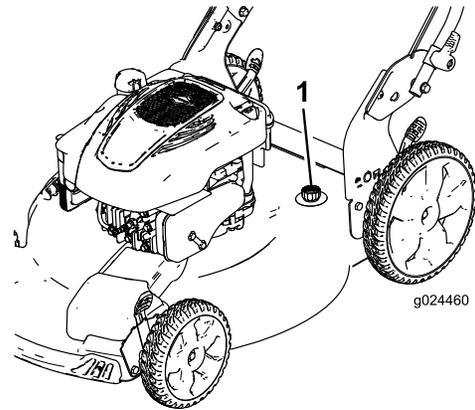

Figure 29
4. Attach a garden hose that is connected to a water supply to the washout port (Figure 29).